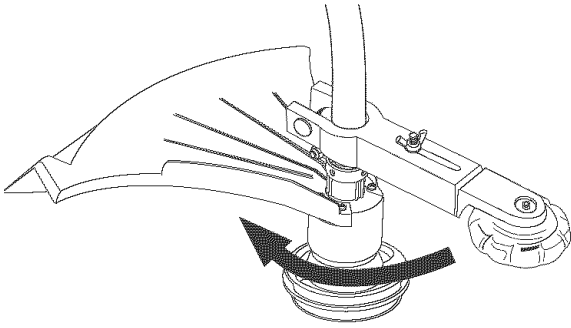

Fig. 15
5. Rotate the edge guide. Accomplish this by loosening its wing nut slightly and turning the guide to the left (when facing the unit away from the engine) Turn the guide about 90° (Fig. 15) or until it is in the position shown in Figure 16.
10. When you are done using the edger, move it out of the way. Loosen its wing nut and rotate the edger 180° from its position shown in Figure 15. The edger will rest above the cutting attachment guard. Re-tighten the wing nut and operate the trimmer normally. When you are finished, return to the trimming mode.